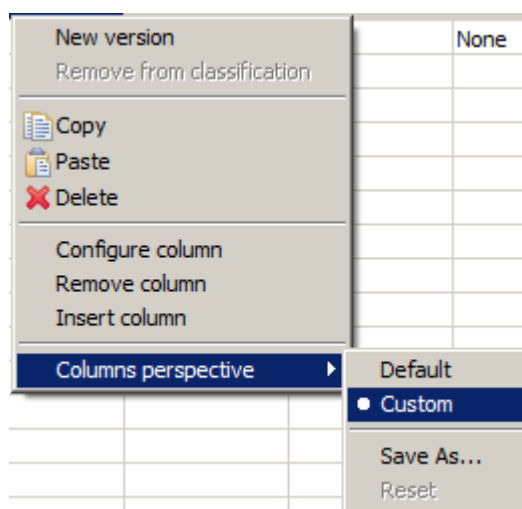

Figure 1. Selected 'Custom' perspective by using context sensitive menu
- Select **Columns Perspective** -> **<perspective_name>** menu item (perspective_name - the perspective created by the user) (see Figure 1).